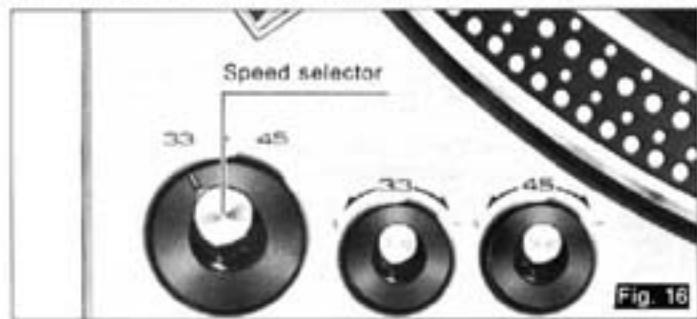

Fig. 16
- Set the speed selector to the desired record speed. (See Fig. 16).